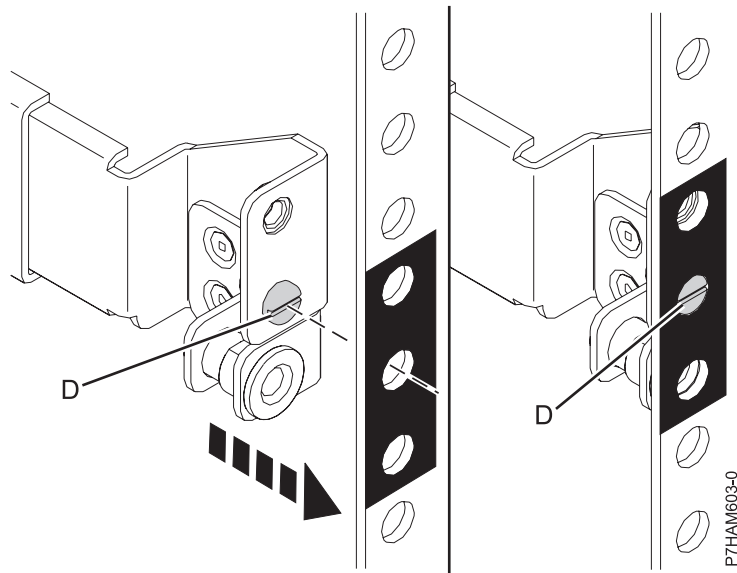

Figure 11. Mounting the rail to the rear of the rack
- e. Seat the alignment screw (D) of the rail into the middle EIA hole that you marked previously, as shown in Figure 11.